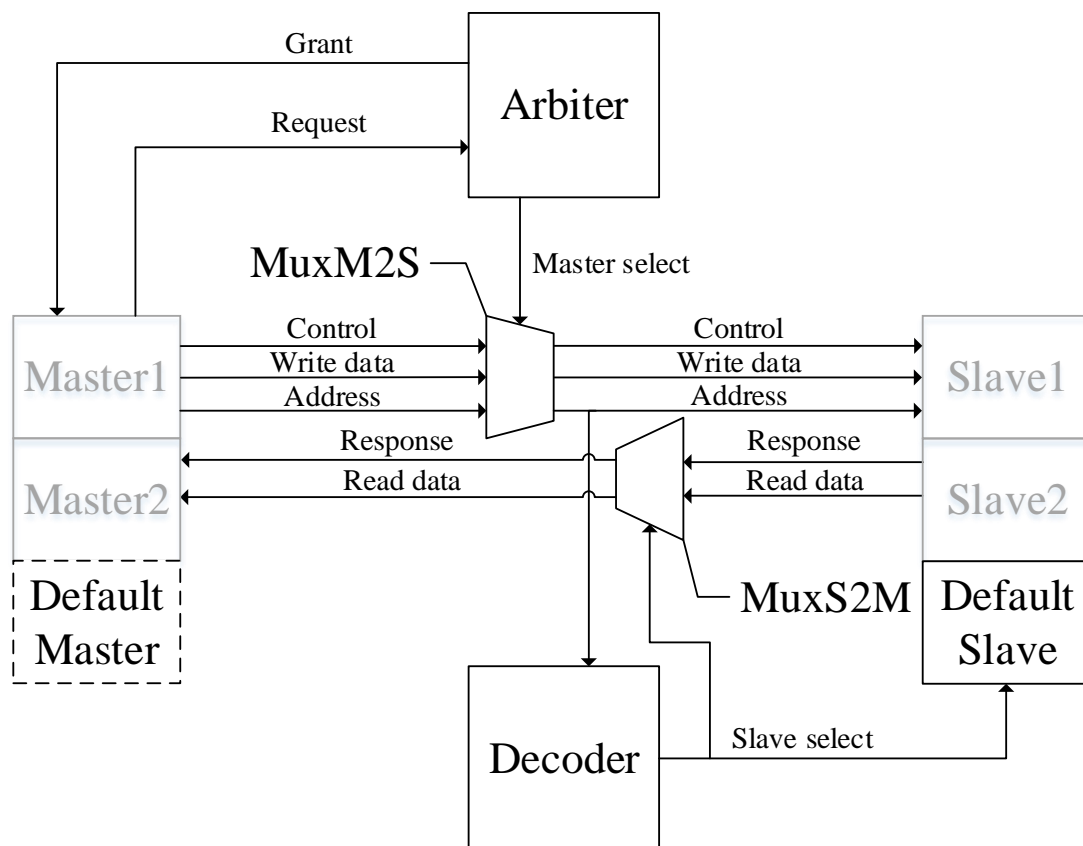

Fig. 1-1: AHB block diagram
- g. The conceptual architecture of AHB architecture is shown in Fig. 1-1. The AHB architecture skeleton code will be provided on the course website. Please download and complete them by yourself.